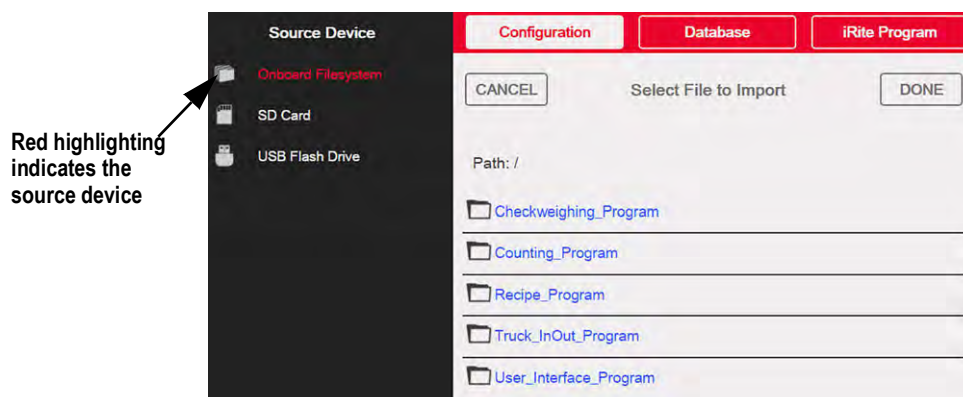

Figure 13-1. Import Configuration
The Import Configuration screen looks the same whether importing from an onboard file system, a micro SD card or a flash drive. The only difference is the source device is highlighted in red on the left side of the screen. For an example, see Figure 13-1, a file is being imported from an onboard file system.
2. Press **Import from File**. The Import Screen displays, see Figure 13-1 on page 113. Load both the .rev and .cod files to use the built-in application programs.
4. Select **Import from File**. The Import Screen displays, see Figure 13-1 on page 113.
2. Press **Import from File**. The Import Screen displays, see Figure 13-1 on page 113.
3. Press **Import from File**. The Import Screen displays, see Figure 13-1 on page 113.